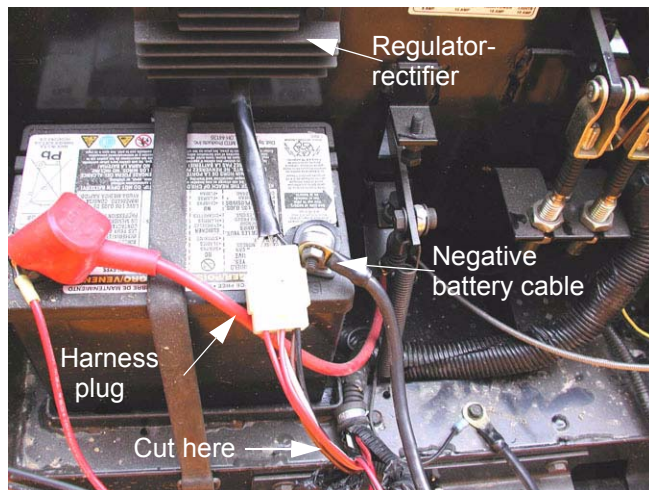

Figure 1.5
- 1.5. Unplug the harness connector from the pigtail on the regulator-rectifier. See Figure 1.5.